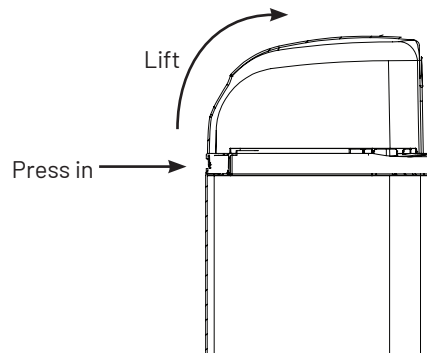

Figure 4
3. Remove cover by pressing in on the latch and lifting cover (Figure 4). When the cover is removed, the valve is visible. Remove the power adapter. They should be secured to the tank collar near the inlet/outlet connections.